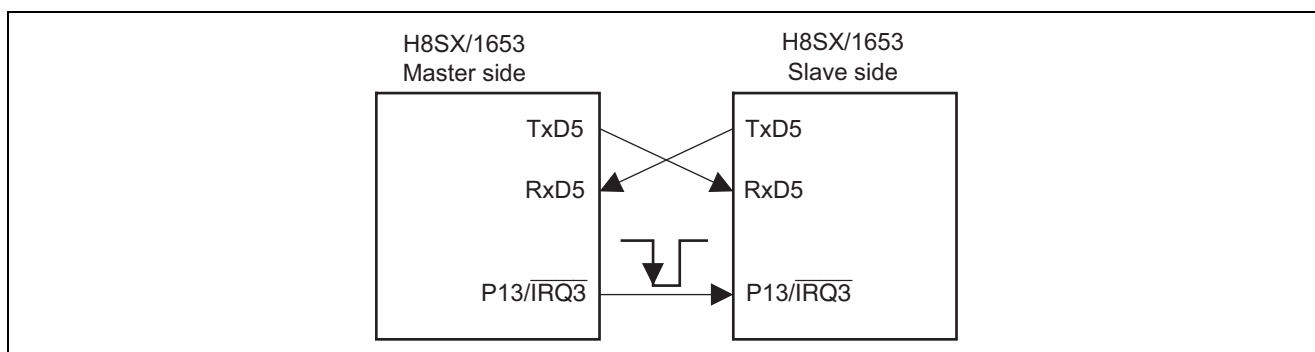

Figure 1 Setup for Asynchronous Communications with Timing from the Timer Clock Input
- Figure 1 shows the connections for this sample task.